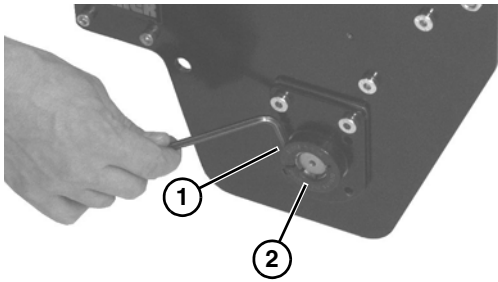

Figure 43
7. Loosen the bearing collar set screw (**Figure 43, item 1**) and remove bearing collar (**Figure 43, item 2**).
8. Remove three socket head screws (**Figure 43, item 1**), and remove plate and drive terminal assembly (**Figure 43, item 2**) from drive spindle (**Figure 43, item 3**) and crossmember (**Figure 43, item 4**).
9. Remove drive spindle (**Figure 43, item 3**), from opposite side plate and drive terminal assembly (**Figure 43, item 5**).